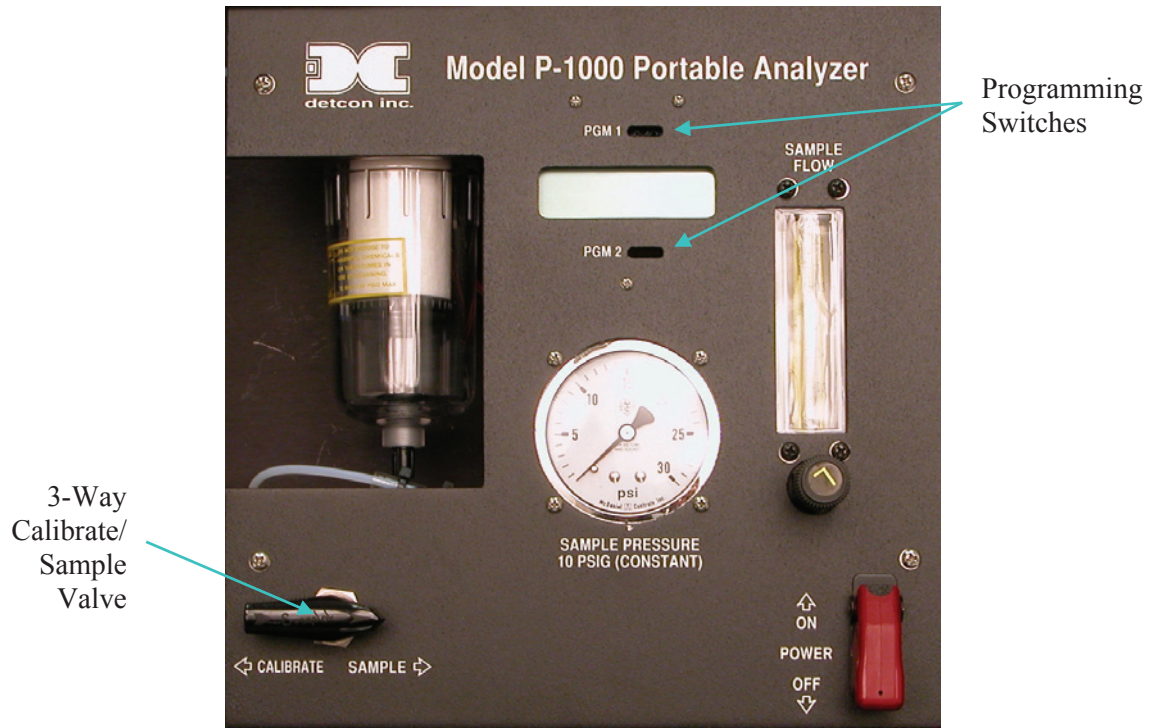

Figure 12 Front Panel
A magnetic programming tool is used to operate the magnetic switches. Switch action is defined as momentary contact, 3-second hold, and 15-second hold. In momentary contact use, the programming magnet is waved over a switch location. In 3-second hold, the programming magnet is held in place over a switch location for 3 or more seconds. In 15-second hold, the programming magnet is held in place over a switch location for 15 seconds. Three (3) and fifteen (15) second holds are used to enter or exit calibration and program menus while momentary contact is used to make set-point adjustments. The location of “PGM 1” and “PGM 2” is shown in Figure 12.